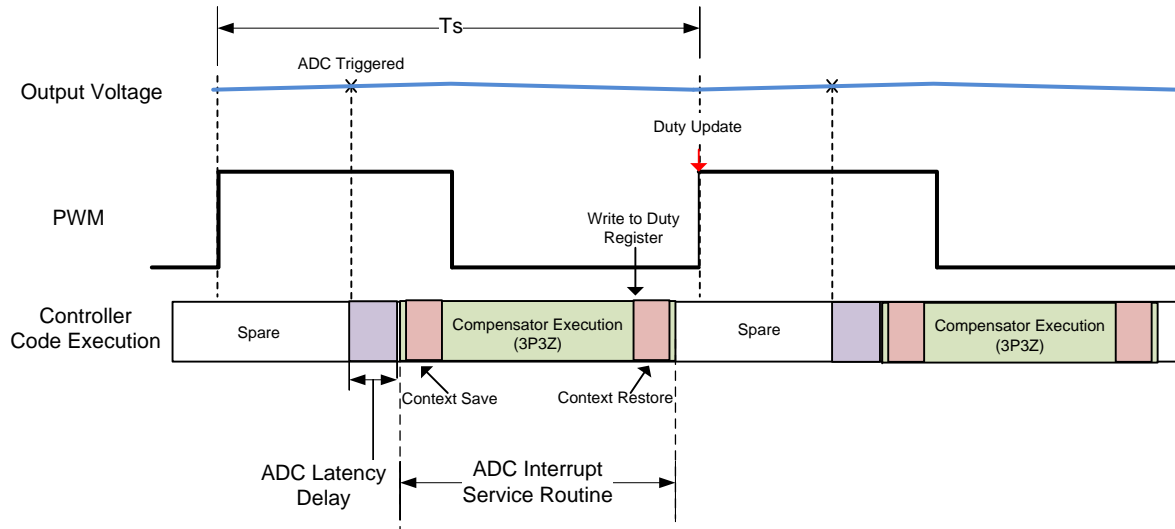

Figure 34 - System Delays with 3P3Z Compensator
Figure 34 - System Delays with 3P3Z Compensator shown below is an example of a voltage mode converter, where the sampling frequency is equals to the PWM switching frequency (Sampling Ratio = 1), this means that the ADC module will make a measurement of the output voltage once per PWM cycle. After the ADC has completed the conversion of the measurement, the ADC Interrupt Service Routine (ISR) will be called, inside of which the function call to the 3P3Z compensator will be executed and the new duty cycle will be written to the target PWM register.
- **Gate Drive Delay:** This is the delay associated with the gate-driver and the power switch (e.g., MOSFET) delays, these delays are often very small but should be taken into account when calculating overall system performance. For simplicity purposes this delay was not shown in Figure 34, and it is possible to measure this by using an oscilloscope at the output of the microcontroller PWM output to the time when the power switch (e.g., MOSFET drain terminal) is fully turned on.